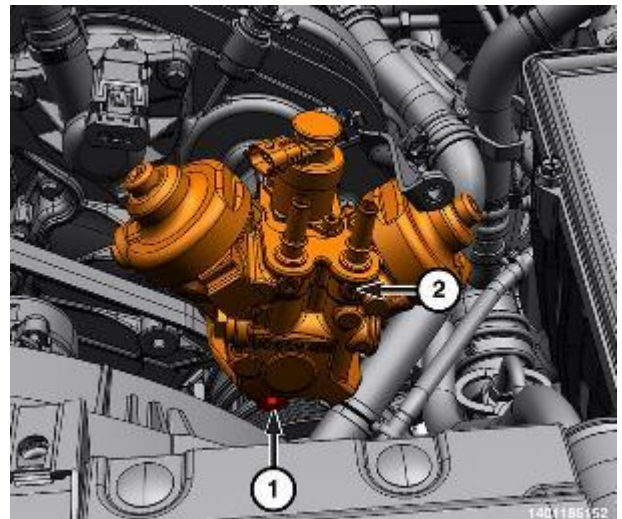

Figure 189 – HPFP Lower Bolt
- 31. Remove the lower bolt (1) from the HPFP (2) and slide the pump away from the engine as far as possible (Figure 189).